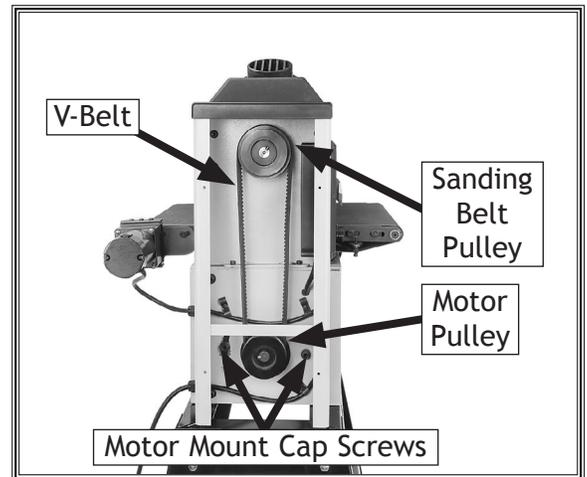

Figure 24. Belt-drive system.
3. Loosen motor mount cap screws shown in Figure 24, and lift motor pulley to de-tension belt.